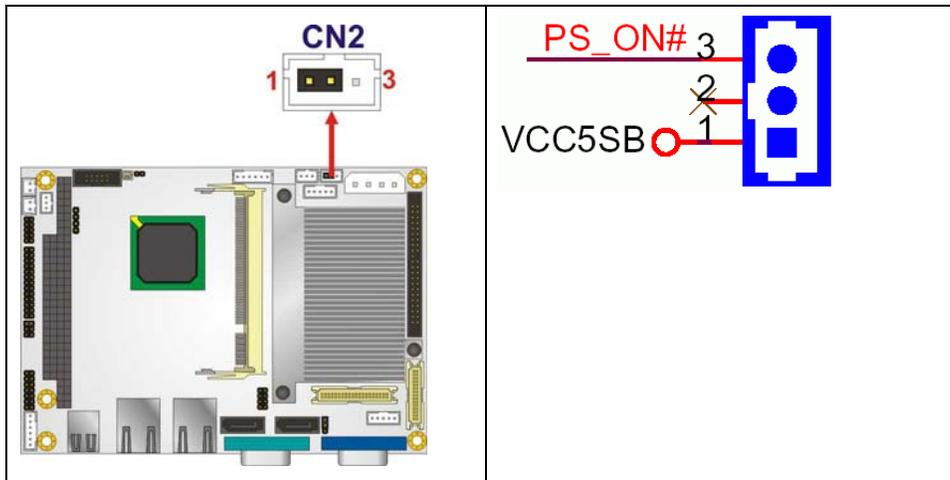

Figure 4-4: ATX Power Supply Enable Connector Location
- CN Location:** See **Figure 4-4**